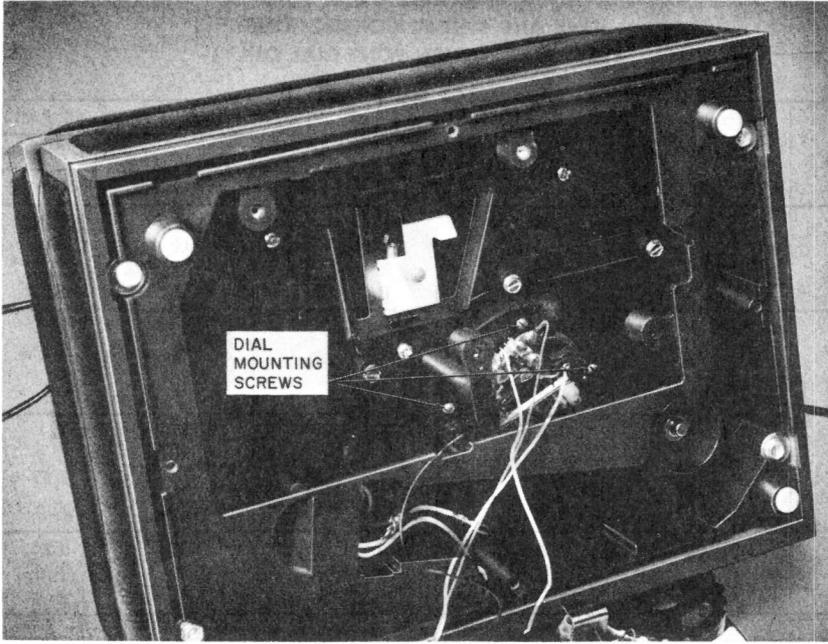

Fig. 9—Removing Rotary Dial
- (6) Rotary dial equipped sets only—remove three dial mounting screws and remove the rotary dial (Fig. 9).